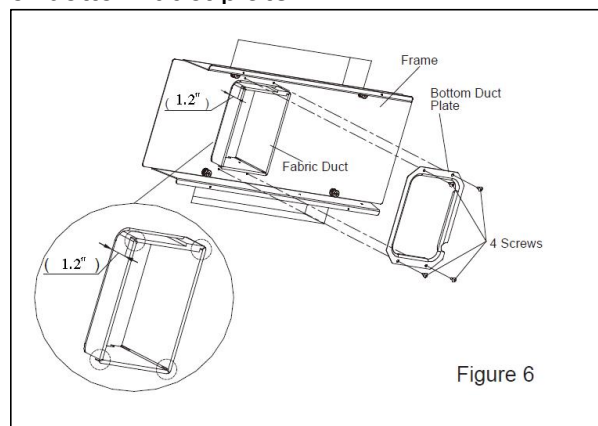

Figure 6
6. Set the fabric air duct into the duct opening of installation plate sub-assy and cut off four corner of fabric air duct. Because the thickness of vehicle top is different, the distance between the opening and the installation plate sub-assy is shown in figure 6.
7. Fasten each side of the fabric duct with fitting the bottom duct plate to the ceiling assembly frame with 4 screws (see Figure 6). Trim any excess fabric that may extend beyond edge of bottom duct plate.